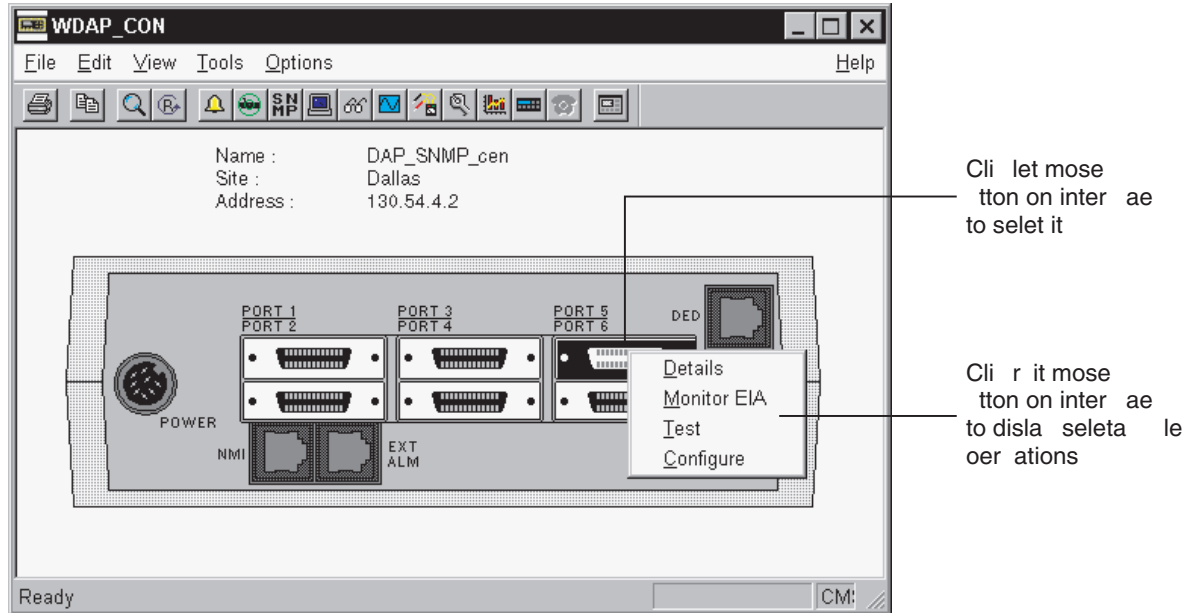

Figure 3-4. Starting Operation on Selected Interface
2. To display a popup menu of the operations you can perform on the selected interface, position the cursor on the interface and click the right mouse button. (See Figure 3-4.)